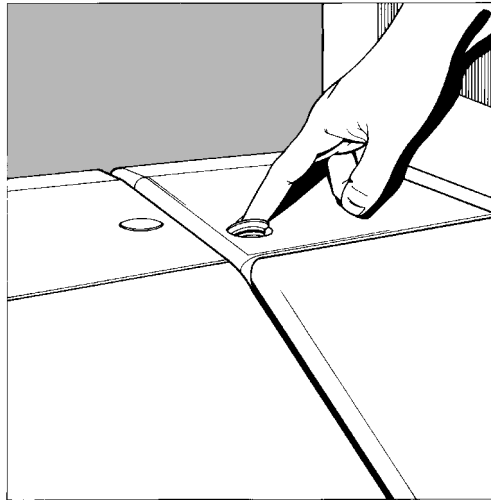

Figure 3-10 Removing the Inserts
- 3 Remove the two round inserts from the left-hand side of the top of the main cover (Figure 3-10). To do this, push down the edge of the insert that is near the back of the Spectrum RXI.